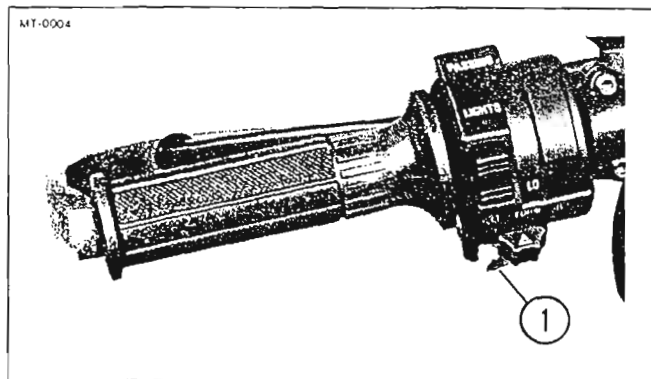

Figure 2-21. Horn Switch
See Figure 2-21. With ignition switch in ON position, depress horn switch (1) and check that horn sounds. If horn does not sound, refer to Paragraph 4-3.3.